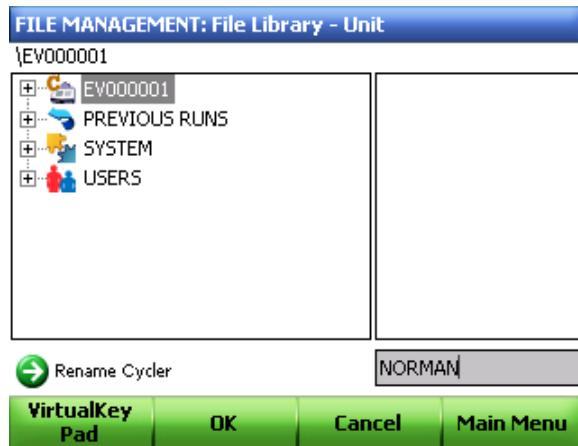

Figure 20. Type in the name of the thermal cycler.
- Type in a new name in the text box using the alphanumeric keys (Figure 20).